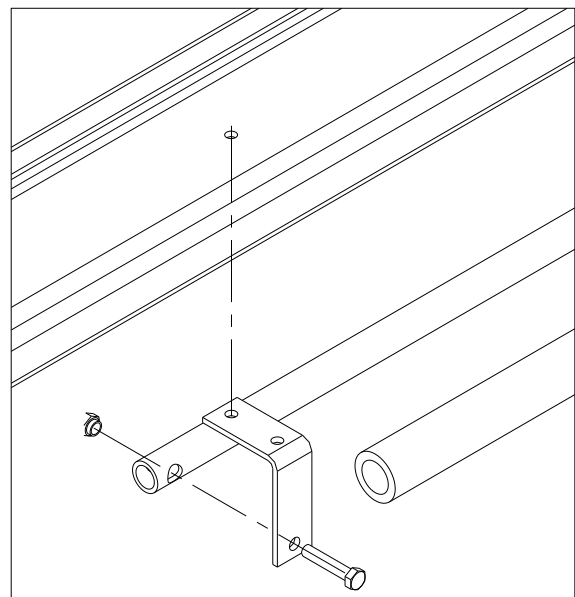
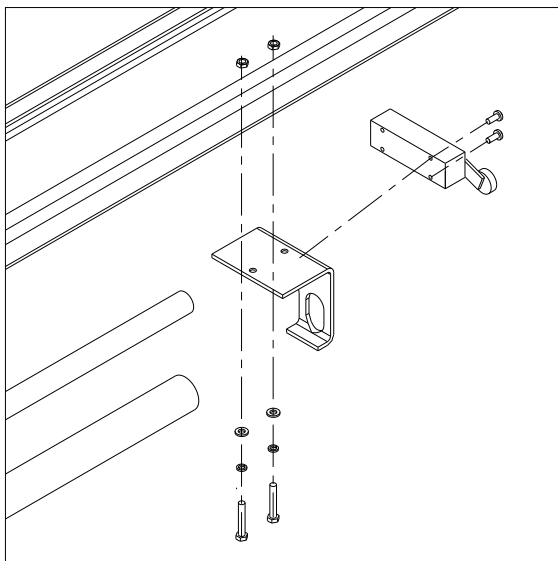

Fig. 35
Fig. 36
- ◆ Install the safety bar according to fig.35 and fig.36.
**4.4.3.4** Close the cover of the electric box, turn the main switch to position 1, press the up push button (**Fig. 36**), the motor rotation direction should be the one shown by the arrow on the pump.
The lift Commands (control devices) is shown as *Fig. 36*.